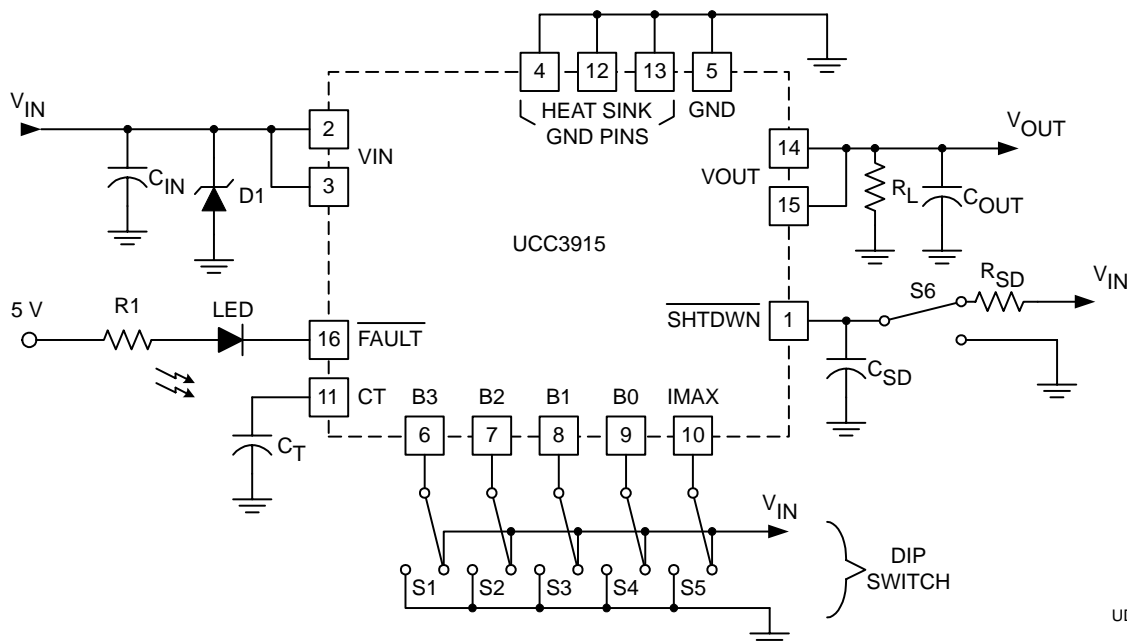

Figure 1. Evaluation Circuit
- Decoupling V_{IN} with a capacitor, C_{IN} (refer to Figure 1), located close to the V_{IN} pins. This capacitor is typically 1 μF or less to limit the inrush current.
- Clamping the voltage at V_{IN} below 15 V with a Zener diode, D1 (refer to Figure 1), located close to the V_{IN} pins.